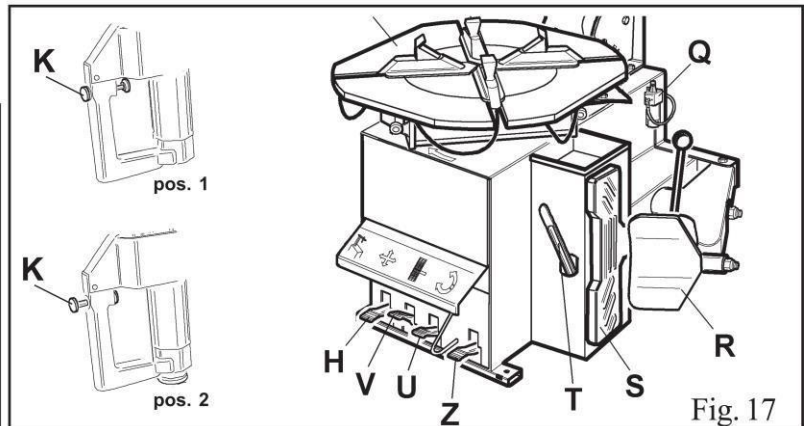

Fig. 17
- With the lever held in this position, rotate the turntable (Y) in a clockwise direction by pressing pedal (Z) down until the tire is completely separated from the wheel rim (Fig. 17).
- In order to remove the inner tube if there is one, tilt the arm (P) by pushing the pedal (H) down directly without unlocking the mounting bar.